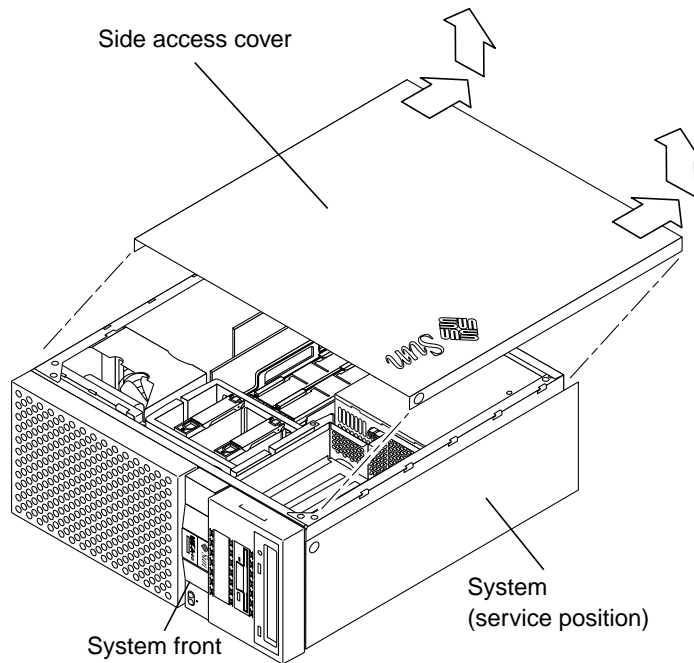

FIGURE 2-3 Lifting the Side Access Cover
3. Remove the side access cover as follows (FIGURE 2-3):